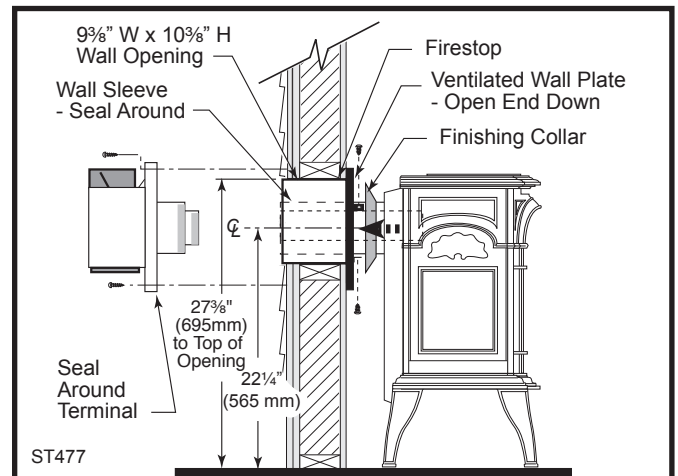

Fig. 19 Rear Vent Kit 7TFERSK installation.
4. Install the Wall Firestop/Sleeve assembly into the wall cutout and fasten the firestop to the wall cutout framing members. (Figs. 19)